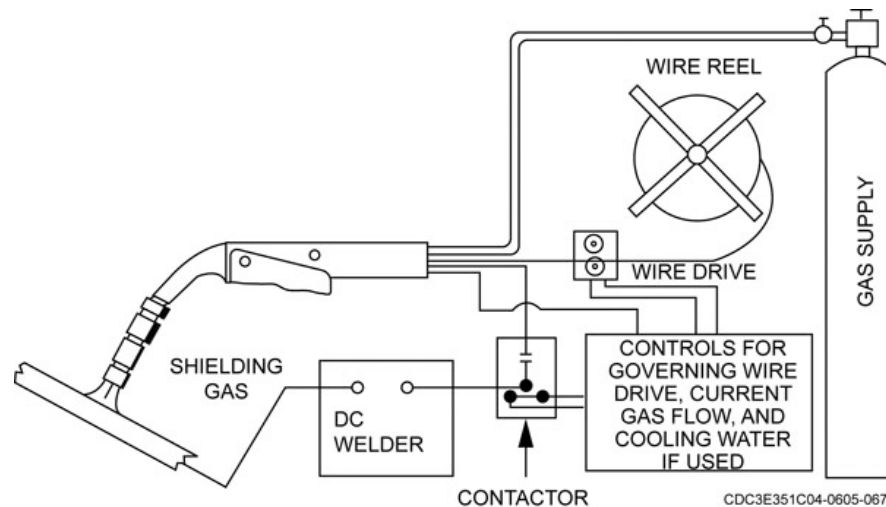

Figure 2–2. Metallic inert gas shielded process.
Tungsten inert gas welding requires alternating (AC) or direct current (DC). The choice of AC or DC current depends on the metal and weld requirements. Direct current electrode negative (DCEN/DCSP or DC-) welding is commonly used for ferrous metals and AC high-frequency (ACHF) welding for aluminum and non-ferrous metals. Direct current electrode positive (DCEP/DCRP or DC+) can be used for welding both ferrous and non-ferrous metals. The welding current may be supplied by an AC-DC engine-driven generator or an AC-DC transformer-rectifier (fig. 2–3). It is important that the power source provides good current control in the low current range. Standard DC welding machines are often selected because they provide good current output over a broad range. Some welding machines use a superimposed high frequency or (high frequency arc ignition) to permit starting the arc without having the electrode contact the work.